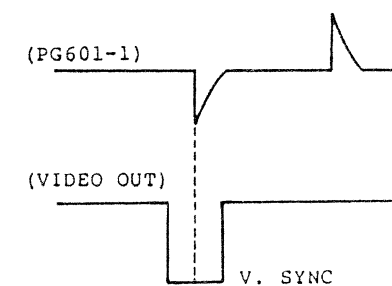

Fig. 4-105
2) Tracking Preset Adjustment (Figs. 4-105, 4-151, 4-152)